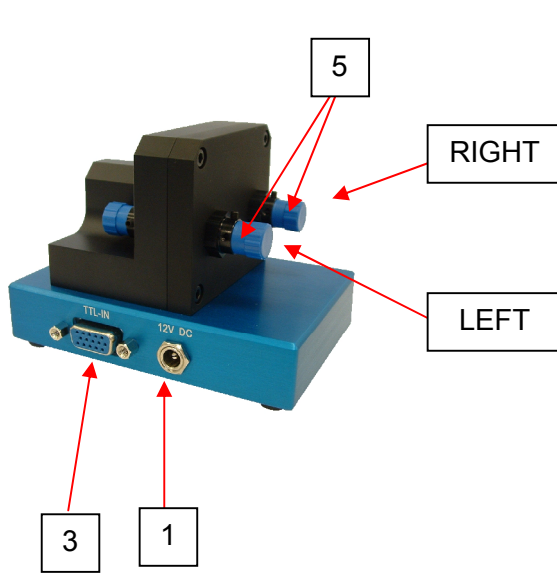

Figure 1: Rear of FOS Unit
Refer to Figures 1 and 2 when setting up your FOS unit.
The FOS is factory optimized on a fiber-core-diameter of 200 μ m. If other core diameters are used, you can change the focal points. Refer to Figures 1 and 2 when adjusting the optical power.
4. Loosen the locking screw (5 – Figure 1) with a hexagonal socket screw key (SW 2.0 mm).
6. Tighten the locking screw (5 – Figure 1) when properly adjusted.